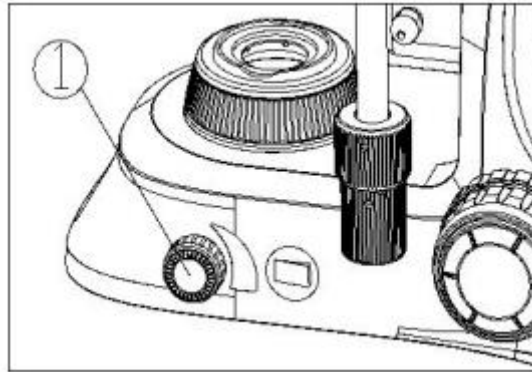

Figure 22
2. Adjust the light adjustment knob (①) until the illumination is comfortable for observation. Rotate the knob clockwise to increase the voltage and brightness or rotate it counterclockwise to decrease the voltage and brightness (see Fig. 22).
The microscope is equipped with an intelligent induction device. If the microscope is not operated for 30 minutes, it will automatically turn off the power and enter standby mode to save energy. To resume use, simply touch the light adjustment knob ① to wake up the light source and continue working. (See Fig. 22)